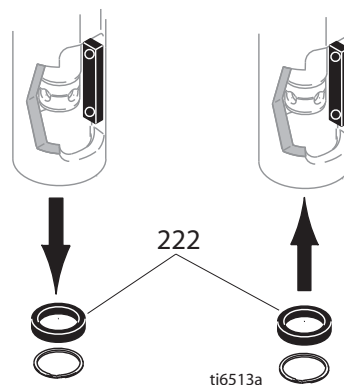

Fig. 10
- 4 Fig. 10. Remove ring magnet (150).
- 1 Fig. 10. Install new ring magnet (222) with dimple marks facing down.